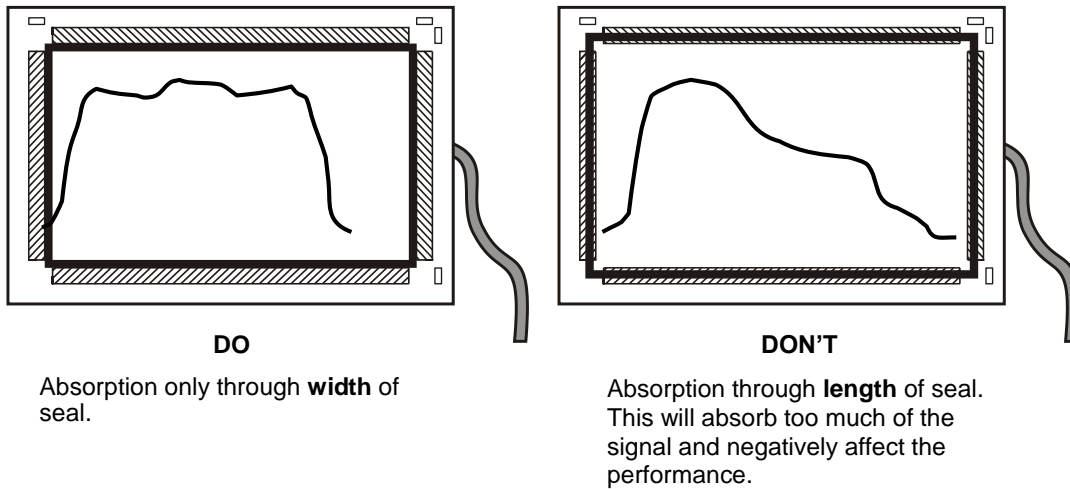

Figure 3-3 Sealing Location
1. The seal should contact the touchscreen inside of the reflector arrays as shown in figure 3-3.